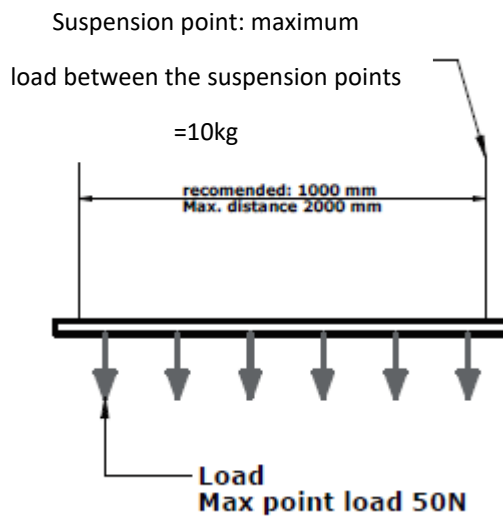

FIG. 2
- Never extend lengths past 2000mm (2m) and never exceed weight of 10kg of fittings per length (Fig. 2).